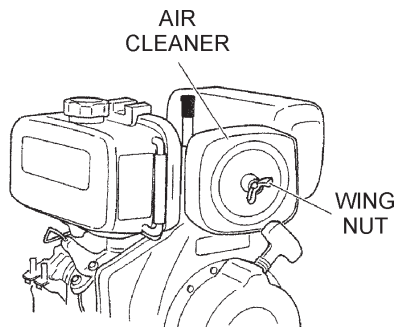

Figure 10. Air Cleaner Element
- Loosen the wing nut (Figure 10), remove the air cleaner cover.